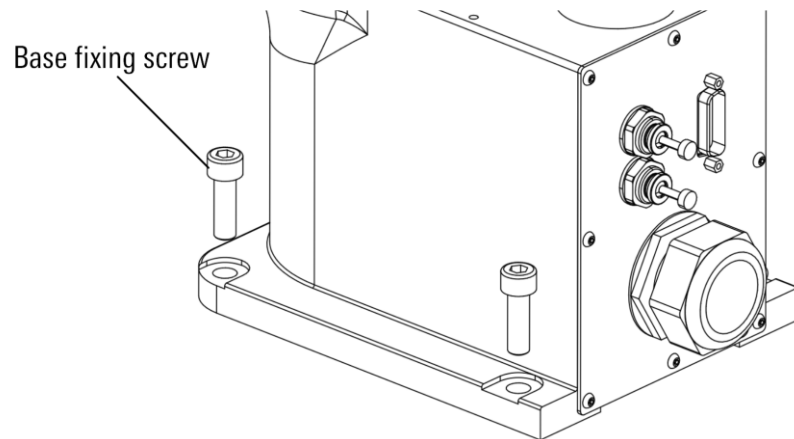

Figure 8-4 Schematic diagram of removing the base fixing screws
- Step3. As shown in Figure 8-4, remove the fixing screws of the base and place it horizontally. Pay attention to the foam or soft pad underneath to prevent the main body from being hit.